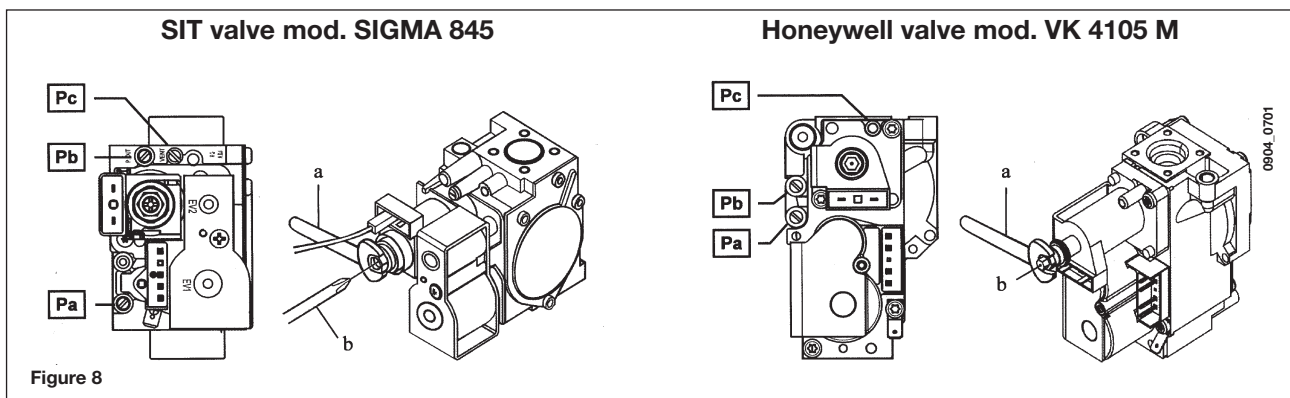

Figure 8
The procedure for calibrating the pressure regulator may vary according to the type of gas valve fitted (HONEYWELL or SIT; see figure 8).
- connect the positive pressure test point of a differential (possibly water-operated) manometer to the gas valve pressure test point (**Pb**) (Figure 8).
- adjust the tube brass screw (a) Fig. 8 to obtain the pressure settings shown in table 1;
- check that boiler feeding dynamic pressure, as measured at the inlet gas valve pressure test point (**Pa**) (Figure 8) is correct (37 mbar for propane gas **G.31**, 20 mbar for natural gas **G20**);
- disconnect the modulator feeding cable and unscrew the (b) Fig. 8 screw to reach the pressure setting corresponding to reduced heat output (see table 1);